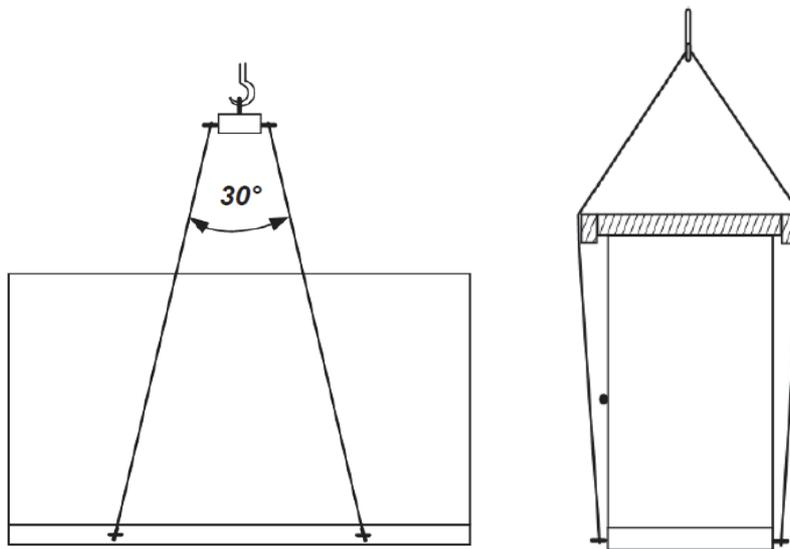

Fig. 6-12 Transportation Method of Crane 2
3. Protection must be done to prevent crane ropes from compressing cabinet and causing damage to it if the reserved holes for forklift in the bottom are to be used. Place a block of wood between those ropes on the top of cabinet, as shown in figure 6-12.